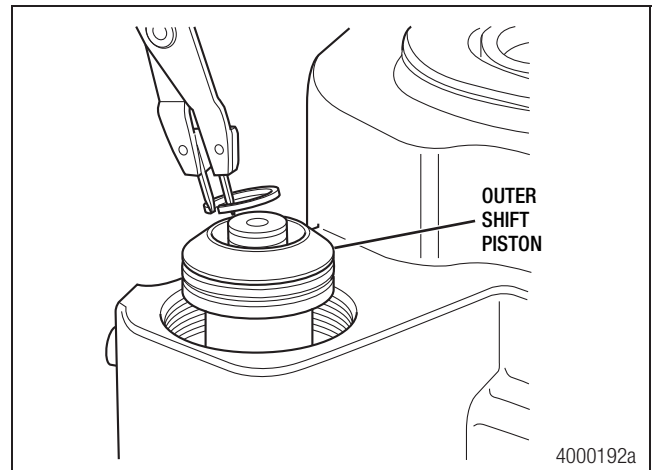

Figure 7.33
4. Install the outer shift piston outer snap ring onto the shift shaft. Figure 7.33.